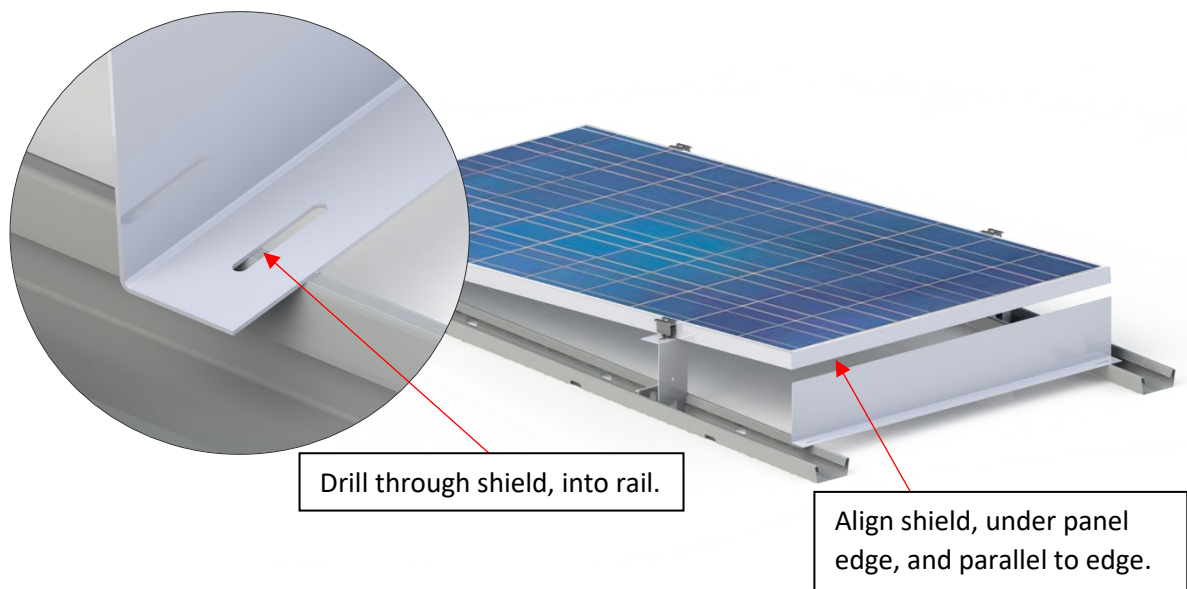

Fig. 28 – Installation of Portrait Shield
- 3 Using the pre-punched hole at the front of the side shield to locate and install a TEK Screw (Figure 28).